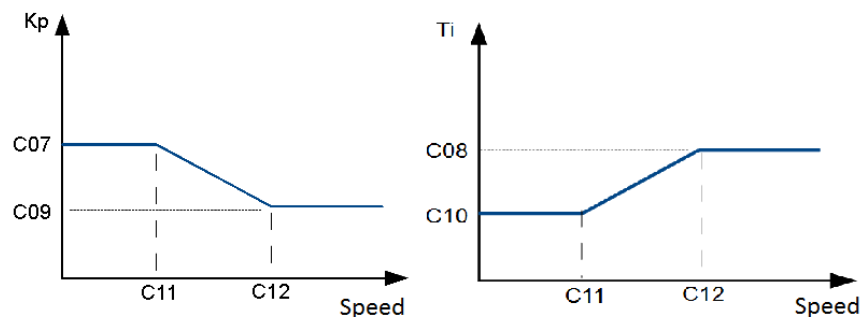

Figure 4.5b PI Values vs Speed
0.0 ... 1.0	C11 sets the lower transition speed for PID coefficients Kp and Ti. See Fig. 4.5b.
0.0 ... 1.0	C12 sets the upper transition speed for PID coefficients Kp and Ti. See Fig. 4.5b.